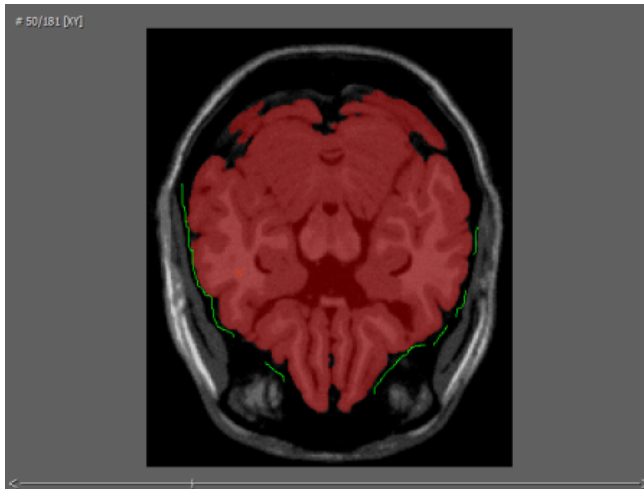

Figure 13.5: To prevent the Magic Wand tool to select non-brain voxels draw limit lines as shown in this Figure
- Proceed to slice 50. Here you will note that the selection "bleeds out" (selects non-brain voxels). Use the *Draw limit line* tool (shortcut 'l') and draw lines similar as shown in Fig. 13.5. Also here, use 'f' to fill and Ctrl+m to smooth.